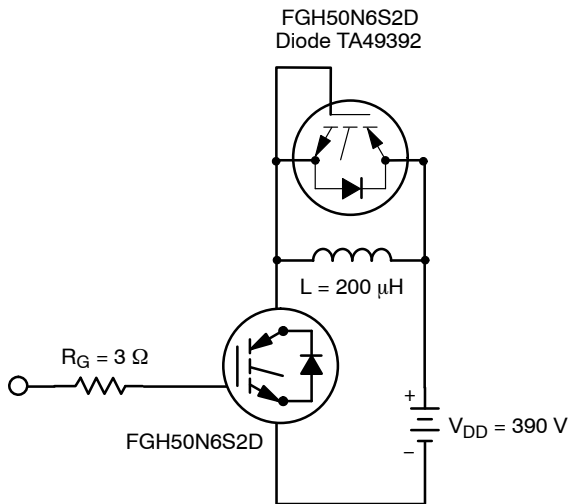

Figure 26. Inductive Switching Test Circuit
- Values for two Turn-On loss conditions are shown for the convenience of the circuit designer. EON1 is the turn-on loss of the IGBT only. EON2 is the turn-on loss when a typical diode is used in the test circuit and the diode is at the same TJ as the IGBT. The diode type is specified in Figure 26.